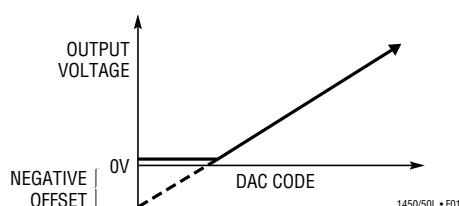

Figure 1. Effect of Negative Offset
**Voltage Offset Error ( $V_{OS}$ ):** The theoretical voltage at the output when the DAC is loaded with all zeros. The output amplifier can have a true negative offset, but because the part is operated from a single supply, the output cannot go below zero. If the offset is negative, the output will remain near 0V resulting in the transfer curve shown in Figure 1.